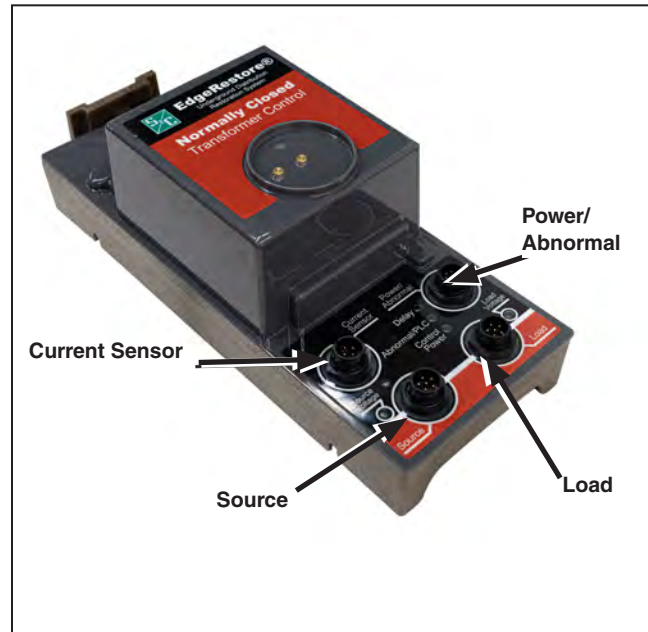
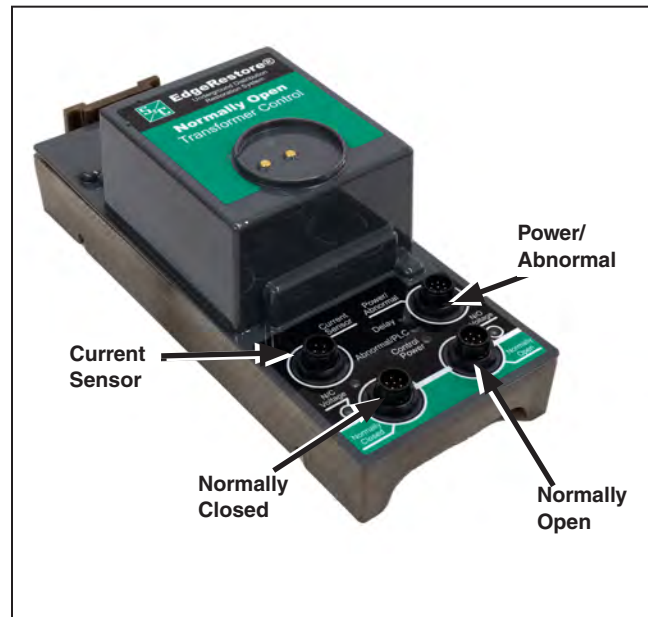
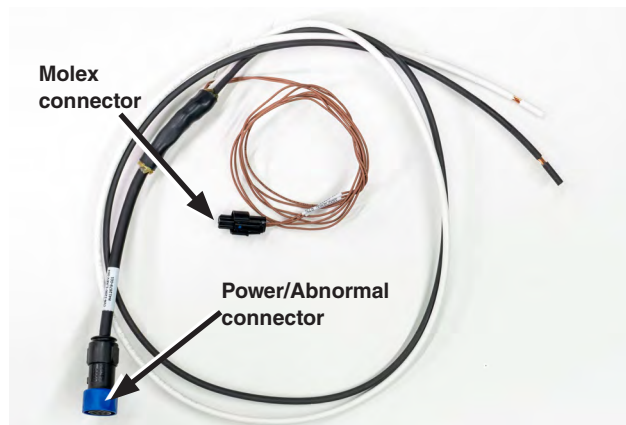
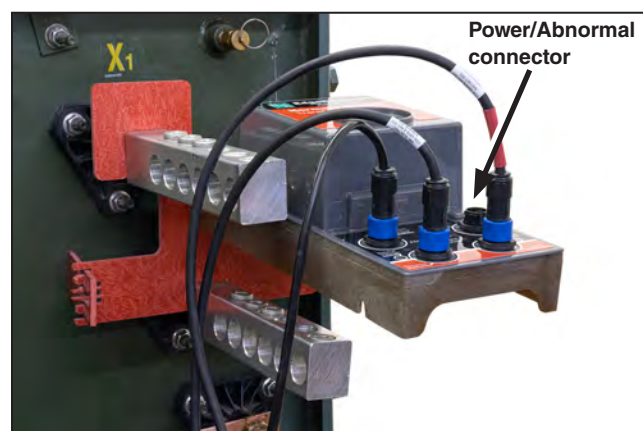

Figure 41. Control connections. A normally closed control shown.
Figure 42. Control connections. A normally open control is shown.
Figure 43. Attach the power connector to the board.
Figure 44. Control connections. A normally closed control is shown.
- STEP 4.** Connect the current sensor connector to the control's four-pin connector labeled "Current Sensor." See Figure 41 and Figure 42 on page 28.
STEP 2. Connect the current sensor connector to the control's four-pin connector labeled "Current Sensor." See Figure 41 and Figure 42 on page 28.
STEP 1. Connect the control cable on the bushing well interrupter connected to the source (utility) side to the six-pin connector labeled “Source.” See Figure 41.
STEP 2. Connect the control cable on the bushing well interrupter connected to the load (toward the normally open transformer) to the six-pin connector labeled “Load.” See Figure 41.
A complete installation is shown in Figure 44 on page 29.
STEP 1. Connect the control cable on the normally closed bushing well interrupter to the six-pin connector labeled “Normally Closed.” See Figure 42.
STEP 2. Connect the control cable on the normally open bushing well interrupter to the “Normally Open” six-pin connector. See Figure 42.
A complete installation is shown in Figure 44 on page 29. A normally closed control is shown, but a normally open one is similar.
A control power connector is included in the installation kit. Connect the black 10-gauge wire to X1 or X3 on the secondary transformer and the white 10-gauge wire to X2. Typically there is a lighting connection on the transformer secondary connections that can be used for this purpose. Then, plug the six-pin connector into the Power/Abnormal connector on the control. See Figure 41 and Figure 42 on page 28, and Figure 43 and Figure 44.
A Molex 2042200002 connector is available to connect the control to monitoring systems that can detect a dry contact that indicates whether the control is in an **Abnormal** state. If the control won't be connected to remote monitoring, leave the connector and wire coiled, as shown in Figure 43. For more information, contact the local S&C Sales Office.
- ❑ Make sure the control cables from the H1A and H1B bushing well interrupters are connected to the control based on the direction of current flow (load or source for normally closed controls, normally open or normally closed for normally open controls) through the transformer. There is a red band on the H1B control cable to help differentiate the cables when making connections to the control. See Figures 41 and 42 on page 28.